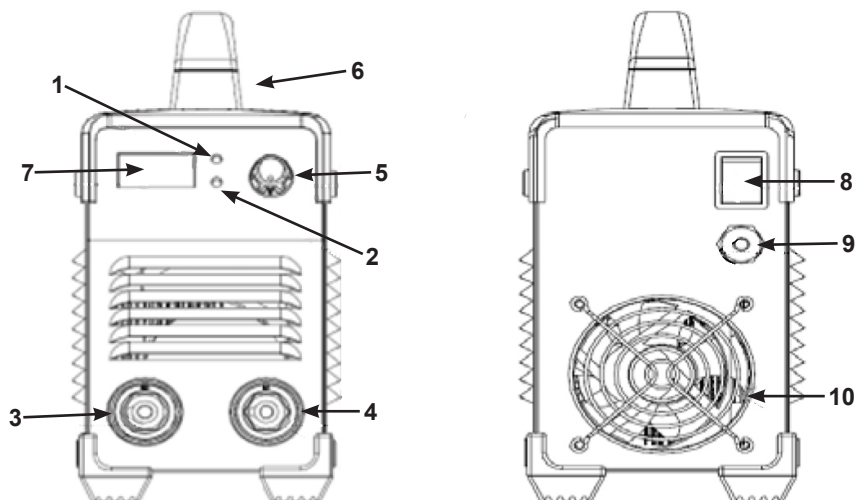

Figure 1: PONTÉ 201 PRO MOST construction
1. Connect the electrode lead cable and ground cable to the **3 (+)** and **4 (-)** sockets following the guidance in user manual for each electrode type (Figure 1)